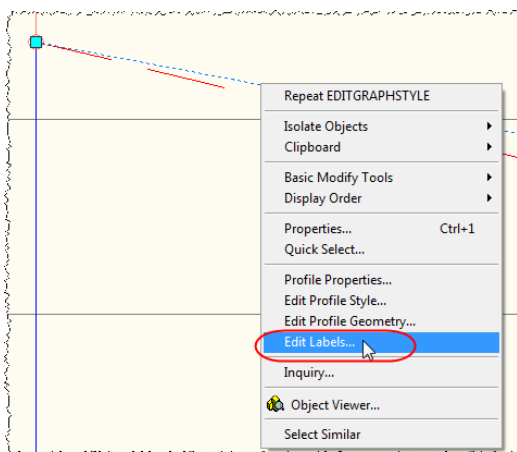

Figure 11
8. To get a better feel for the geometry, add grade break and slope labels to the design profile if you do not currently see them. Right-click on the design profile, then select **Edit Labels** (Figure 11).